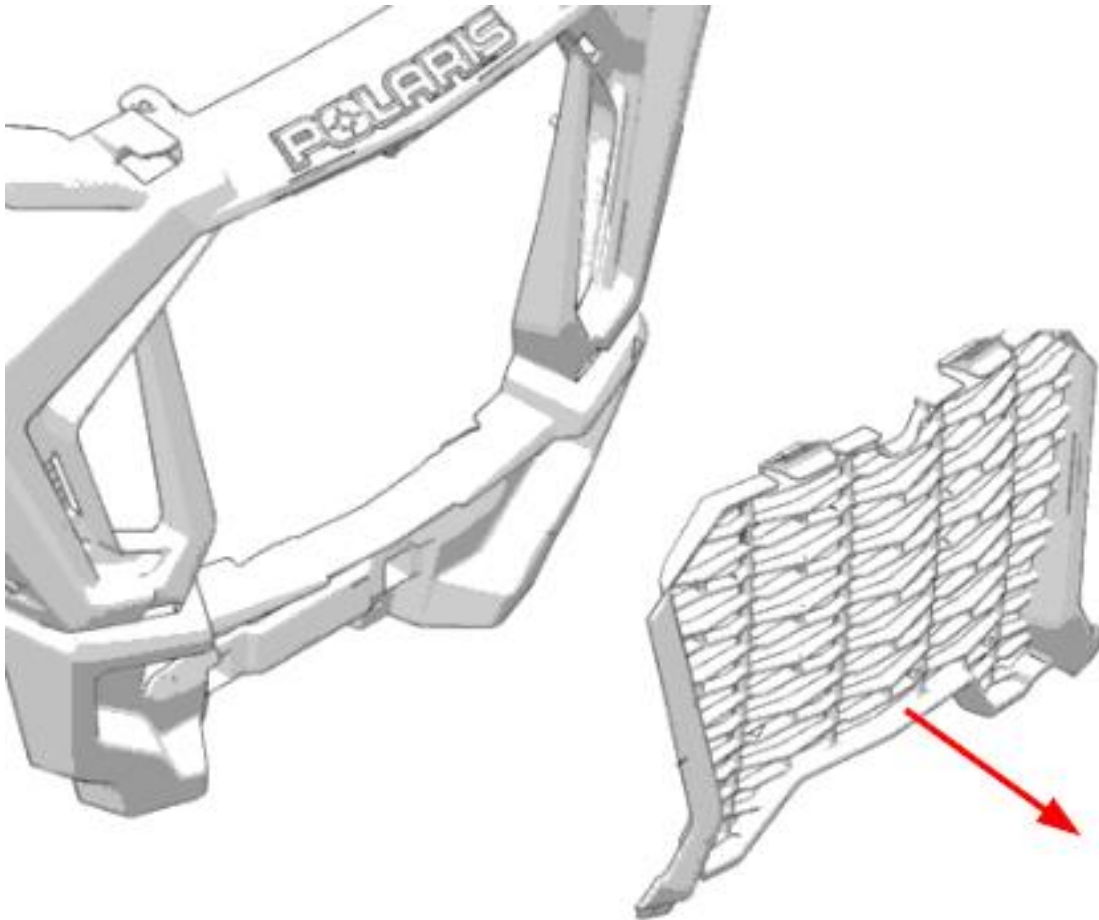

Figure 4
3. Remove plastic radiator grill as shown in Figure 4.